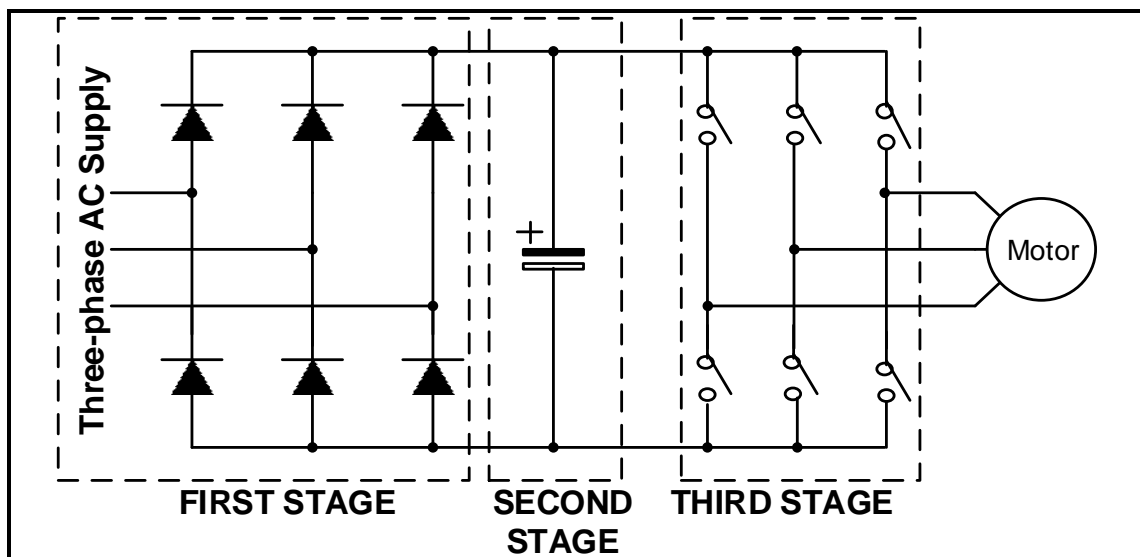

FIGURE 6.8: VARIABLE FREQUENCY DRIVE (VFD) CIRCUIT
- 6.8 FIGURE 6.8 below shows a variable frequency drive (VFD) circuit. Study the circuit and answer the questions that follow: